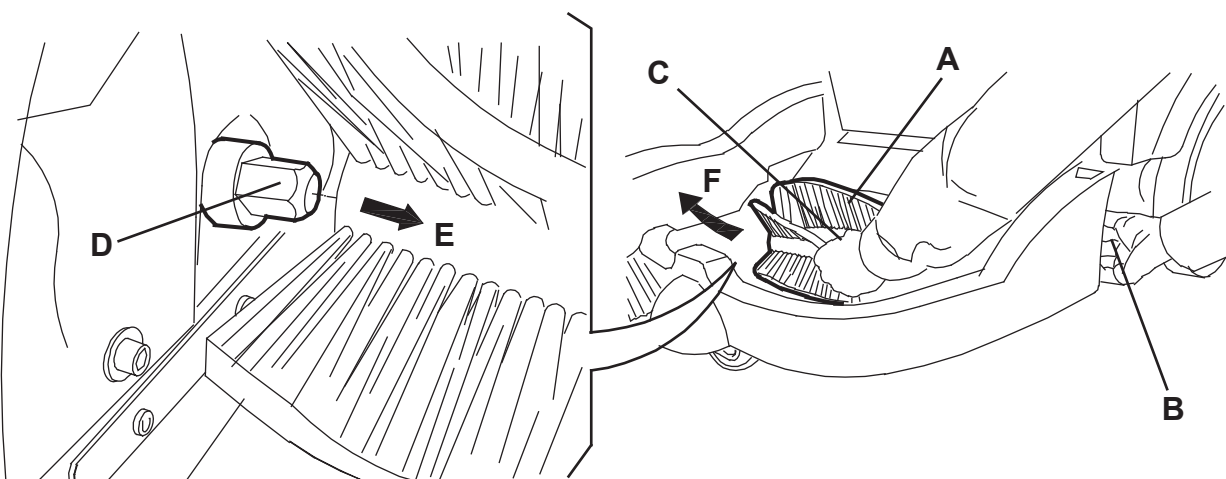

Figure 7
6. Grasp the main broom (A, Fig. 7) on the points (B) and (C), then disconnect it from the drive hub (D) by pulling it in the direction shown by the arrow (E); then remove it in the direction shown by the arrow (F).